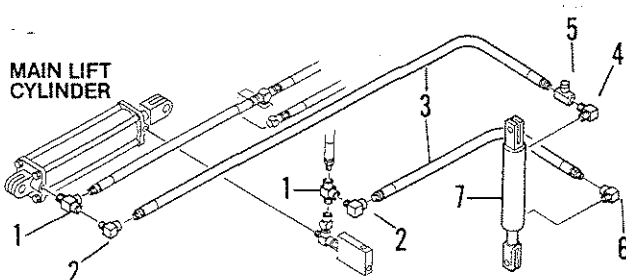

Figure 3
1. Replace existing fitting at cylinder-head port with $\frac{1}{2}$ " Service Tee (1) and 90° elbow (2) as shown in figure 3.
2. Install marker hose (3) and main lift hydraulic hose as shown.
Adjust the rate of rise of marker with Needle Valve, item 5, figure 3.